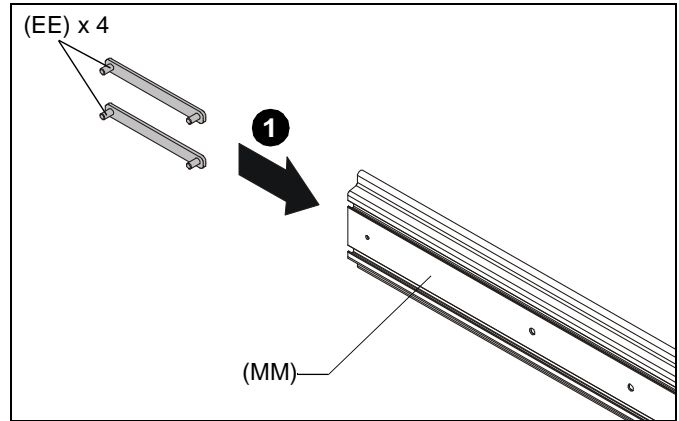

Figure 10
1. Slide four T-slot studs (EE - two in top mounting rail slot and two in bottom) into end of mounting rail (MM). (See Figure 10)